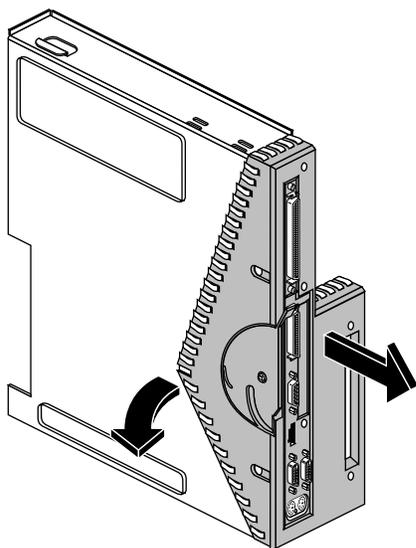

Figure 1-10 Removing the Face Plate: O2 R10000 Class Workstation
- Remove the plastic and metal face plate by grasping it where the plastic comes to a “V” and pulling it outward (Figure 1-10).